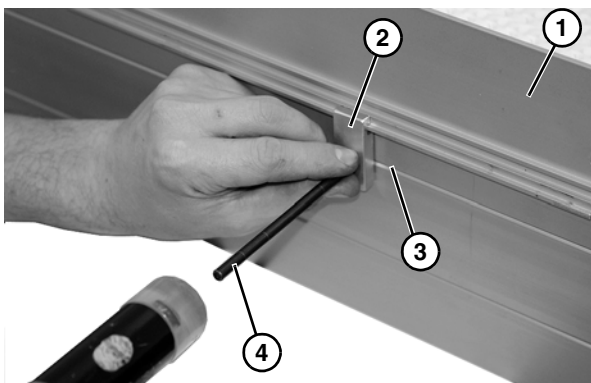

Figure 20
1. Locate guide (**Figure 20, item 1**) and retaining clip (**Figure 20, item 2**) and hold to side rail. Hole should line up with notch (**Figure 20, item 3**) in side rail. Mark the hole locations with a center punch (**Figure 20, item 4**) and remove the bracket.